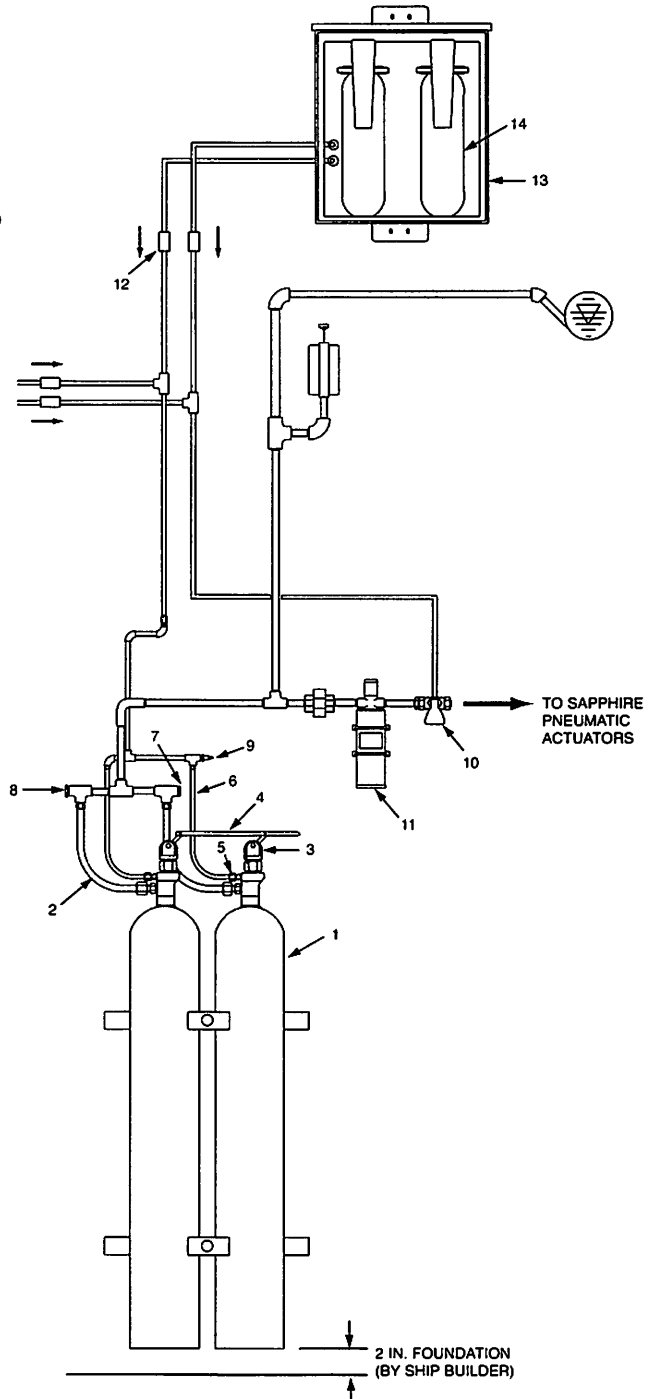

FIGURE 7
2. Pneumatic actuation (Figure 7 and 8)